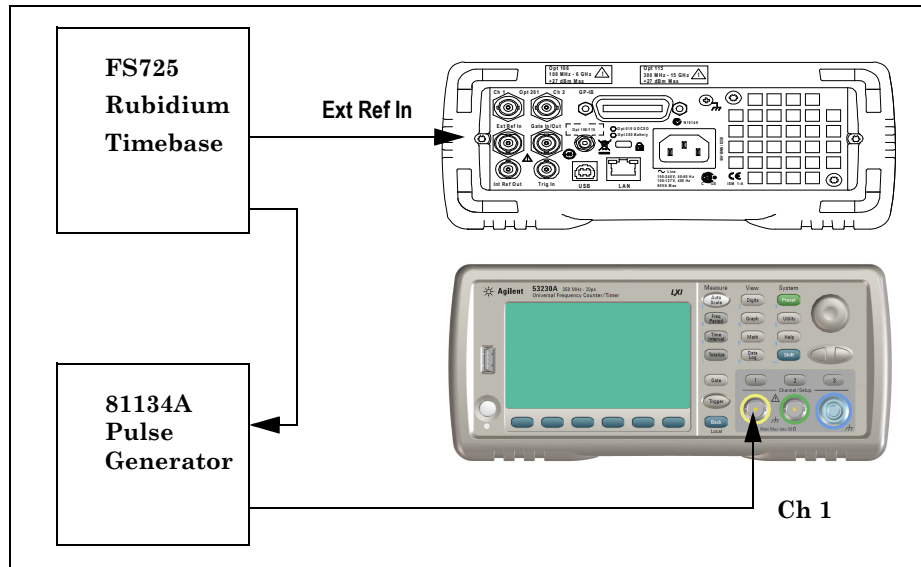

Figure 1-6. Pulse Width Test Setup
- 1 Connect the equipment as shown in Figure 1-6.